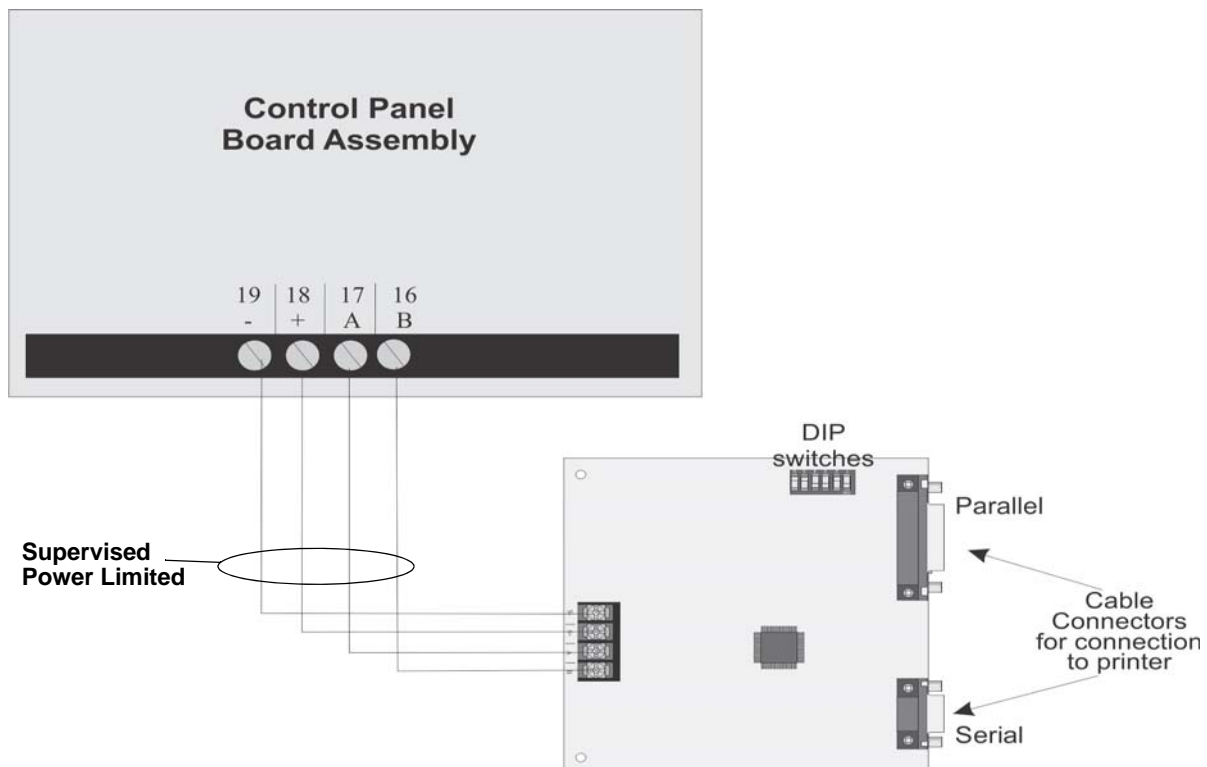

Figure 4-17 5824 Connection to the Panel
2. Connect the 5824 to the panel as shown in Figure 4-17.